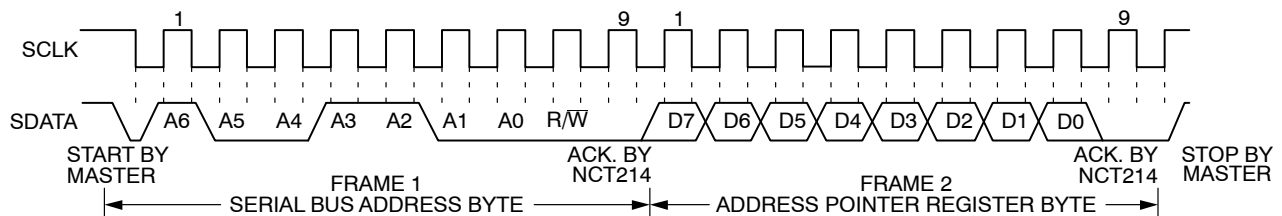

Figure 16. Writing to the Address Pointer Register Only
- If the address pointer register value of the NCT214 is unknown or not the desired value, it is first necessary to set it to the correct value before data can be read from the desired data register. This is done by writing to the NCT214 as before, but only the data byte containing the register read address is sent, because data is not to be written to the register see Figure 16.
- If the address pointer register is known to be at the desired address, data can be read from the corresponding data register without first writing to the address pointer register and the bus transaction shown in Figure 16 can be omitted.